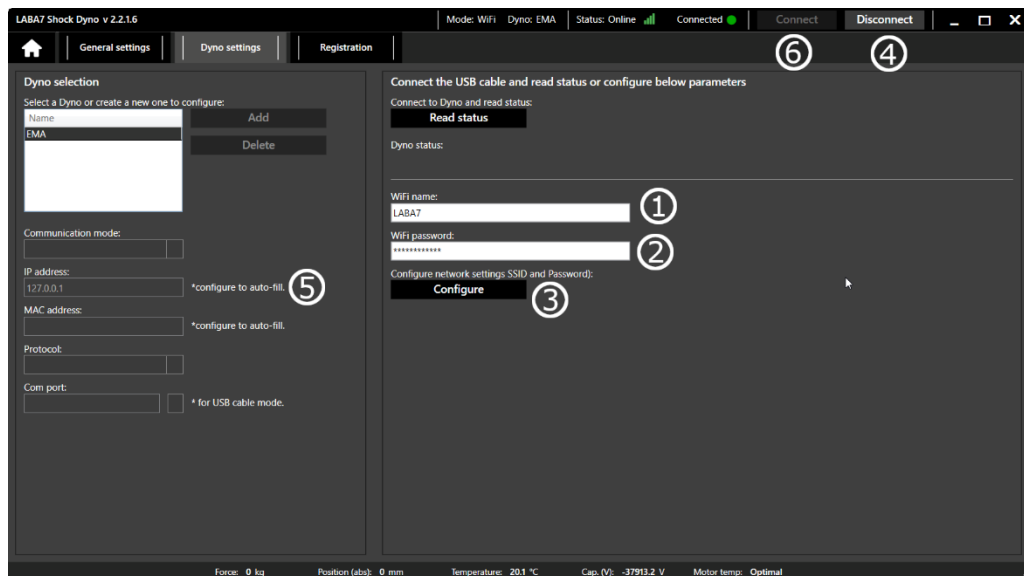

Figure 15
3. Enter Wi-Fi name (Figure 15 – Step 1).
4. Enter Wi-Fi password (Figure 15 – Step 2).
5. Click on Configure button (Figure 15 – Step 3).
6. Once you get notification about successful Wi-Fi connection, press **Disconnect** (Figure 15 – Step 4).
8. Change the IP address to the one which is now being showed in the screen of the device. (Figure 15 – Step 5).
9. Press **Connect** (Figure 15 – Step 6).